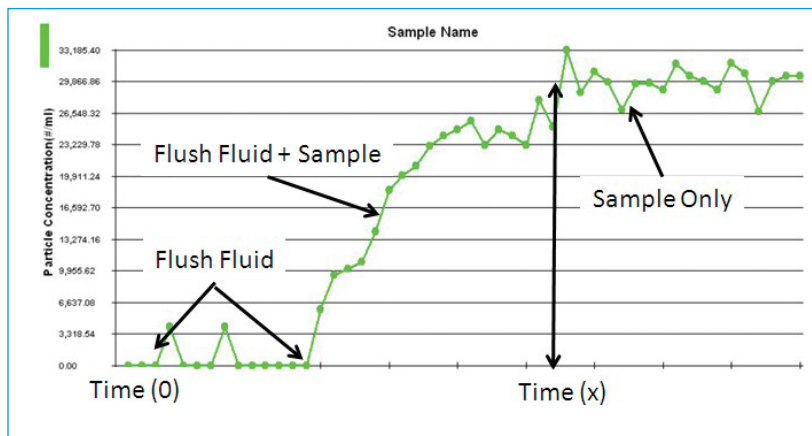

Figure 7-3: Determining Purge Volume.
It is strongly recommended that Purge Volume be confirmed and measured for each flush fluid/sample combination. Purge Volume can be determined by experimenting with Purge Volume set to zero and using MFI’s Trend Chart (Time-Resolved Analysis mode). The objective is to measure the particle concentration from Time (0) until time x when the particle concentration becomes stable. At Time (x), the pure sample is in the Flow Cell and is therefore the time required for the Purge Volume to be removed. This is shown in Figure 7-3.